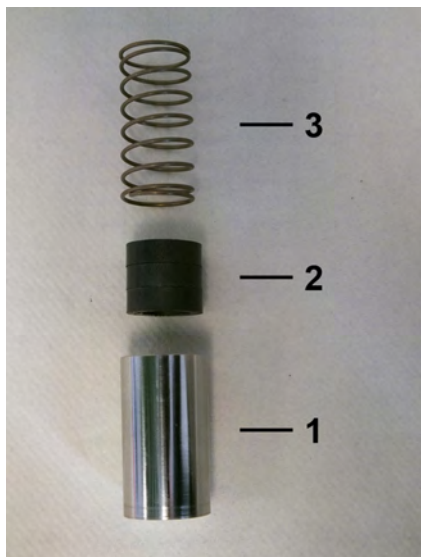

Fig. 55: Inner parts
- 6.** ➤ Insert spring (Fig. 55/3) with magnets (Fig. 55/2) into the float (Fig. 55/1), ensuring proper magnetic pole orientation (north pole toward device outlet).